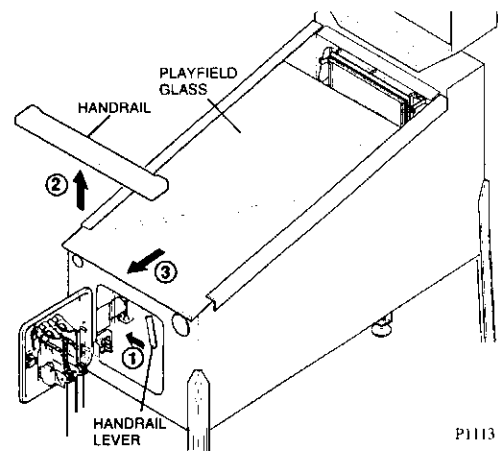

FIGURE 7: REMOVING PLAYFIELD GLASS
14) Open the coin door. Locate lock lever and pull towards center of cabinet; remove handrail and set aside. Remove playfield glass by sliding down and out of armor guides. CAREFULLY set glass aside (see Figure 7).